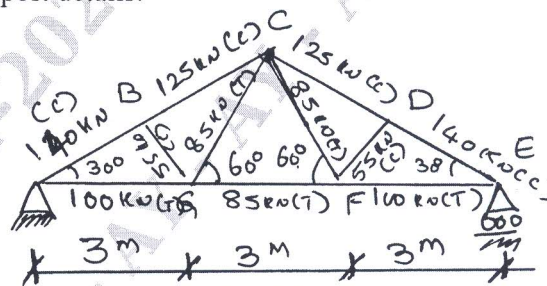

Fig.Q3
- 3 The centre line of a roof truss is as shown in Fig.Q3. The magnitude and nature of forces in each member under service load condition is shown against each member. Design the top chord member, bottom chord member and interior members. Design the truss using bolts of M16, properly class 4.6 for connections. Also design the bearing plate to support a reaction of 160 kN along with anchor bolts for a pull of 40 kN to connect the truss to a RCC column $300 \times 300 \text{ mm}$ of M_{20} grade concrete. Show design details elevation of the truss greater than Span (half span) and support details.